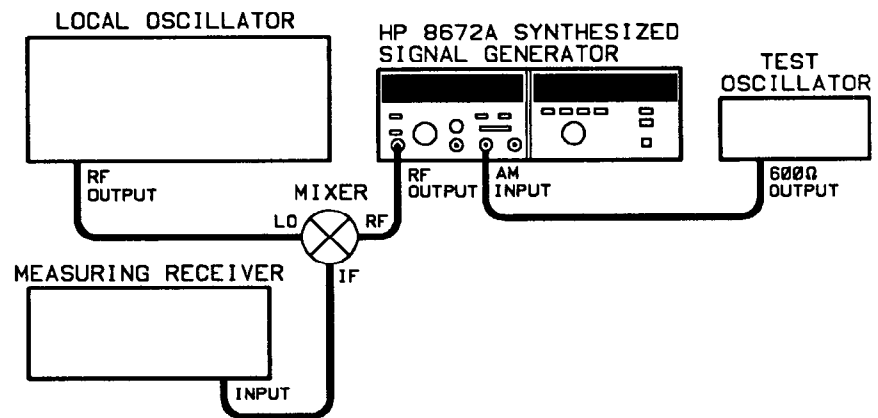

Figure 5-18. AM Meter Adjustment Test Setup
**Procedure** 1. Connect the equipment as shown in Figure 5-18.